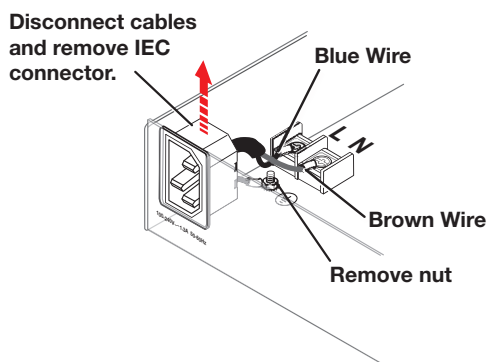

Figure 10. Removing the IEC Connector
3. Remove the 2 screws holding the blue (hot) line and brown neutral wires from the terminal block on the PCB (see figure 10). Place the screws aside to be used later.
4. Remove the ground wire nut from the grounding stud on the bottom of the enclosure, as shown in figure 10. Place the wire nut with the other screws to be used later.
5. Remove the wires attached to the IEC connector from the body of the XPA Ultra and slide the IEC connector and attached wires up and out of the XPA Ultra enclosure (figure 10).